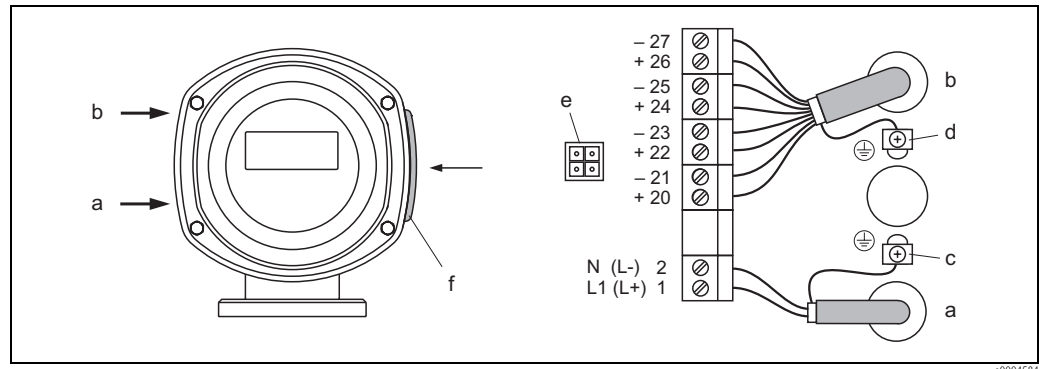

Fig. 22: Connecting the transmitter (stainless steel field housing); cable cross-section: max. 2.5 mm²
- Wiring diagram (stainless steel housing) → Fig. 22